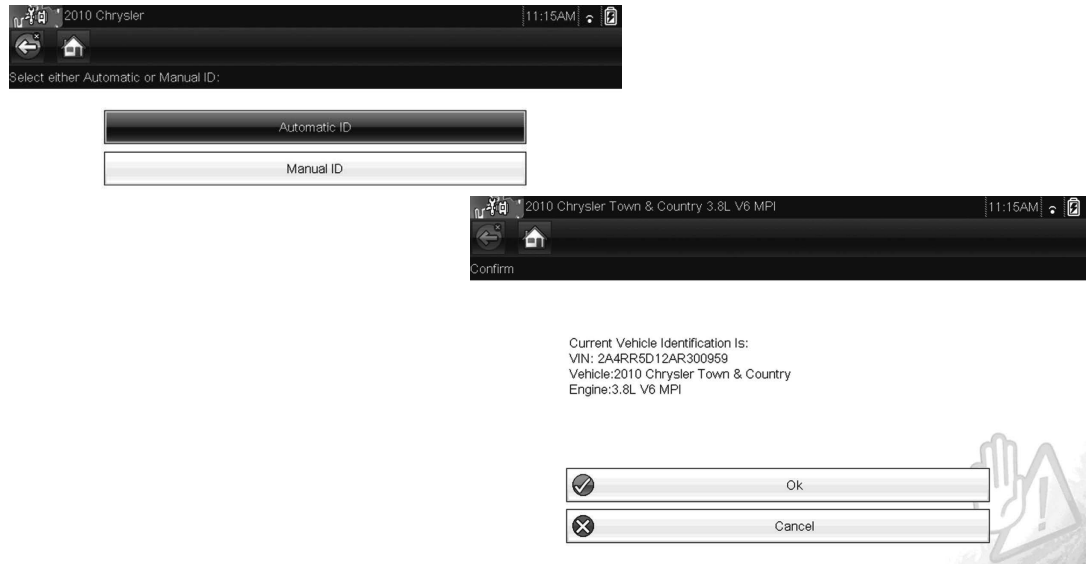

Figure 2 Typical - Vehicle ID and Vehicle Confirmation screen (Solus Edge/Modis Ultra)
7. Select **Automatic ID** (Figure 2), the simulator supports vehicle Auto Identification. Manual ID can also be used to ID the vehicle.
After the vehicle has been identified, the vehicle confirmation screen displays (Figure 2).